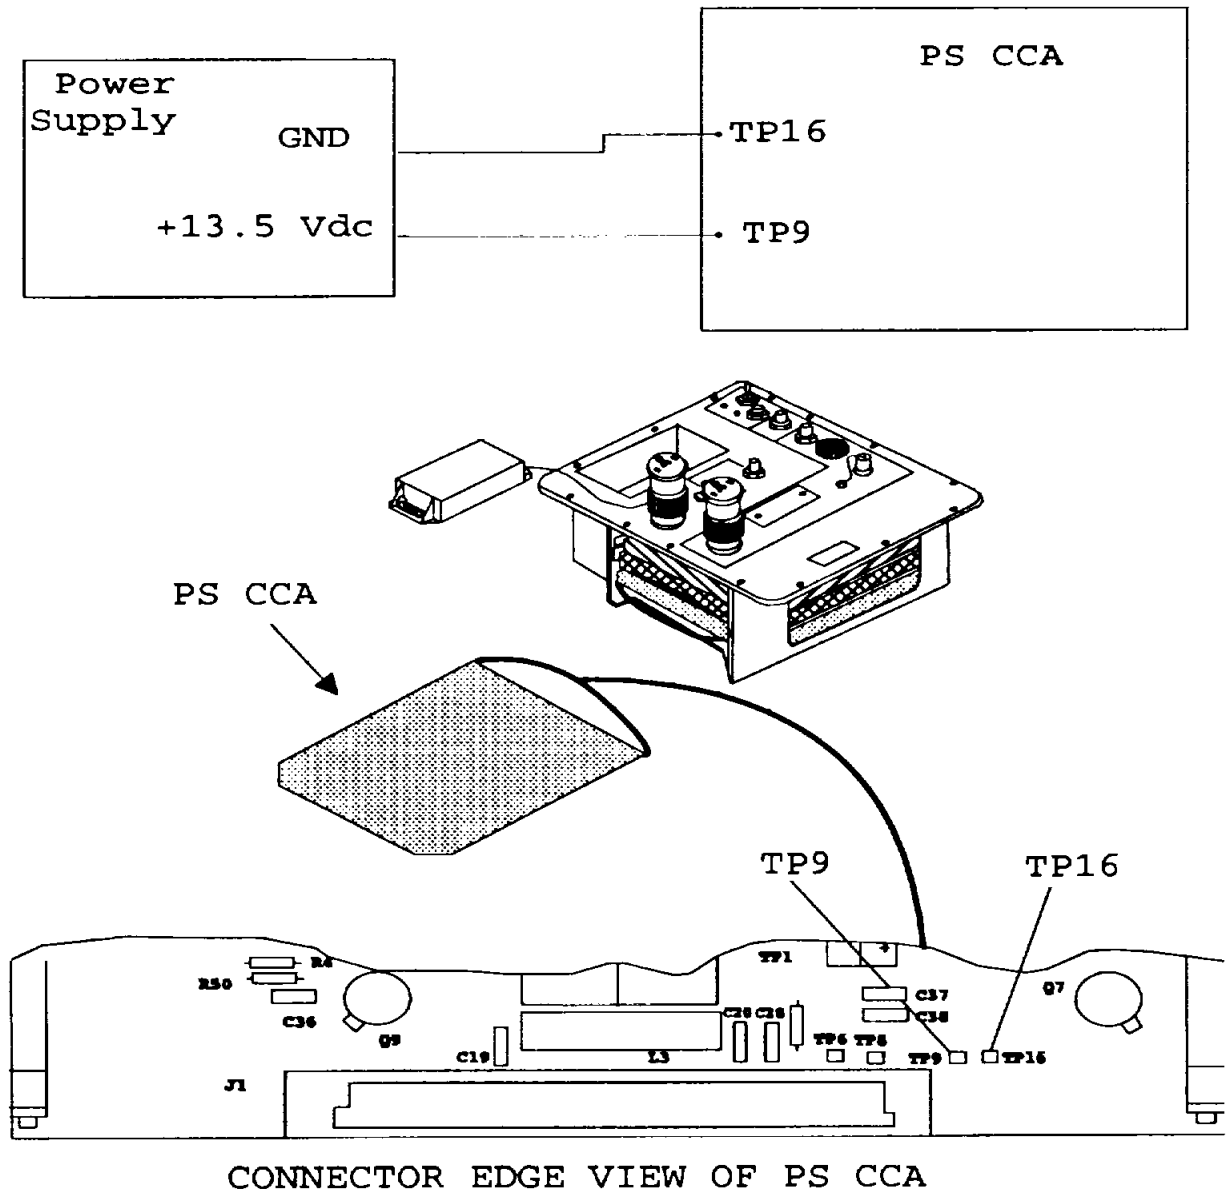

FIGURE 5-2. Power On Test Setup.
(3) Locate test points TP16 (GND) and TP9 (12 Vdc) on PS CCA (refer to Fig. 5-2).
(4) Connect DC power supply to PS CCA as follows: